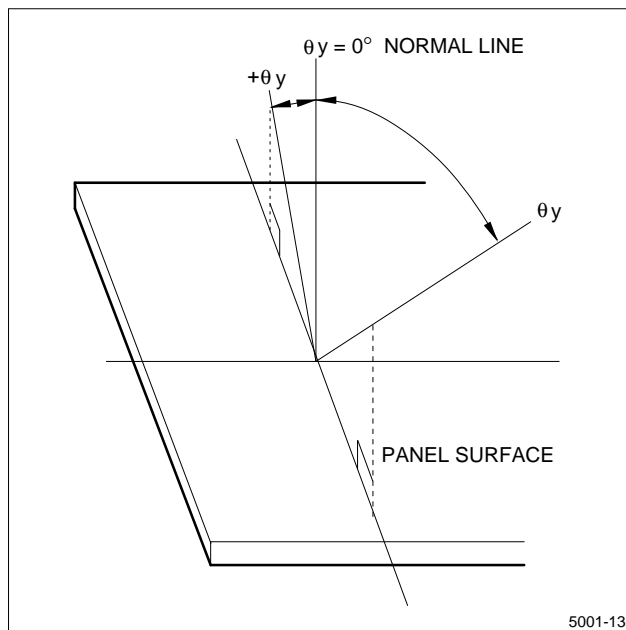

Figure 13. Dot Matrix LCD Viewing Angle
- Industrial (Mechanical) design of the product in which this LCD unit is incorporated must be made so that the viewing angle characteristics of the LCD are optimized. This unit's viewing angle is illustrated in Figure 13 and is as follows: